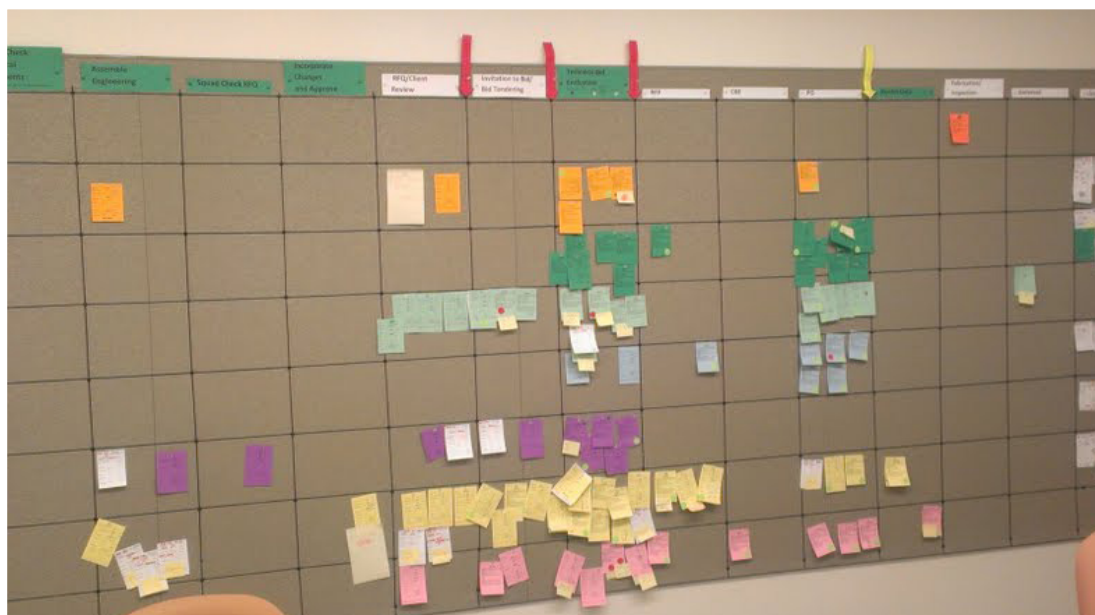

Figure 4:
- ✓ **Beginning:** Note the column to the far left of the image on page 27 and figure 4, “TBR” or “To Be Released.” Here, the manager can track the assembly of the kit, tag by tag, and restrict releases to tasks those with full kits.
- ✓ **End:** Figure 4 captures the visual project board for a major petroleum company. Each row represents a different oil rig; each column, a necessary step to preparing the rigs for a maintenance overhaul. To fulfill the overhauls, the rigs must be shut down, which is both time-consuming and expensive. For efficiency's sake, the company wants to minimize the number of shut-downs; complete oil rig task preparations are deliberately allowed to accumulate at the end of the board, so that the oil company can execute multiple maintenance operations while the rig is put off-line.